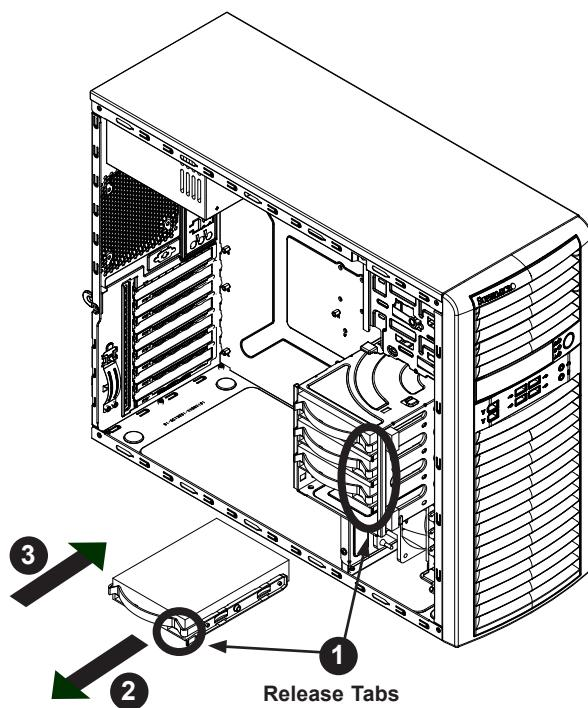

Figure 3-11. Installing Drives in the Hard Drive Cage
1. Press the release tab on the side of the hard drive carrier that is to be removed from the hard drive cage as shown in Figure 3-11.